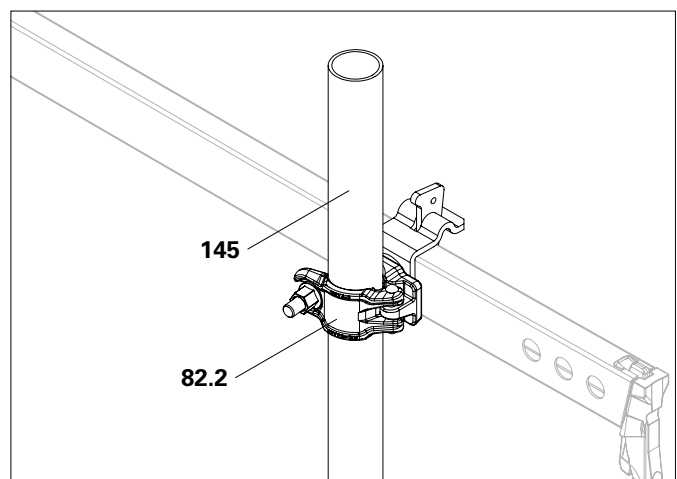

Fig. A10.04c
3. Fit the scaffolding tube (**145**) in the tube coupling (**82.2**). (Fig. A10.04c)